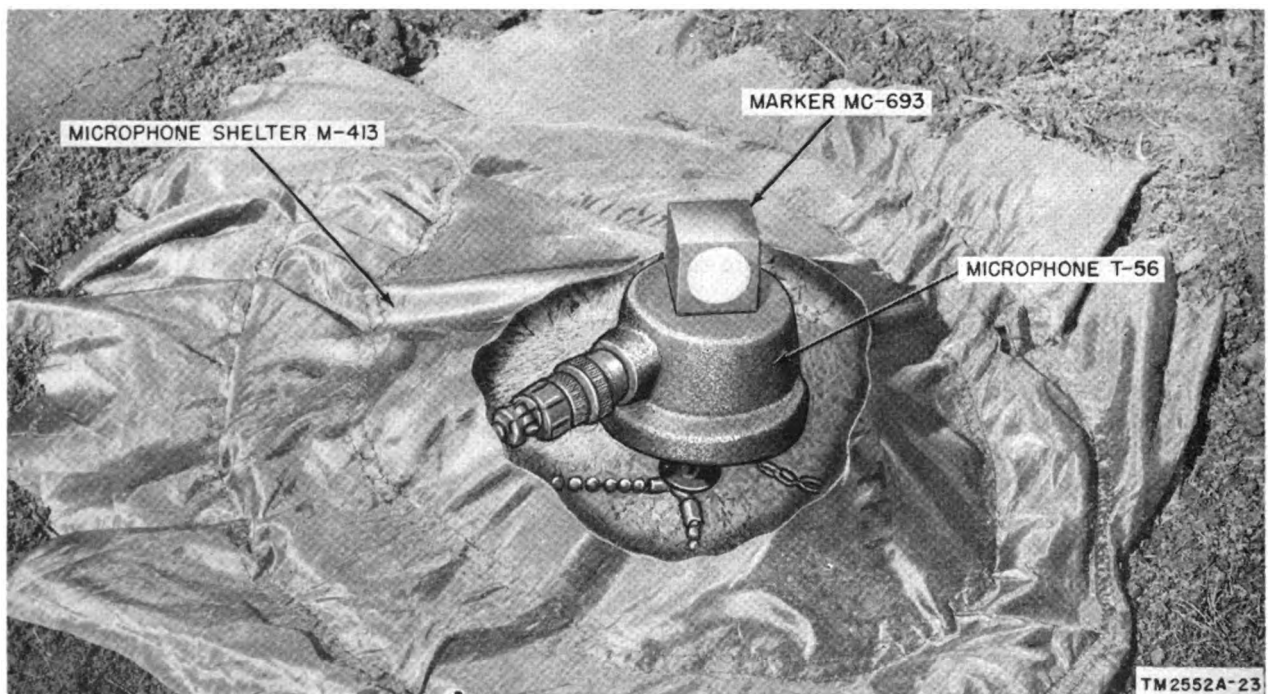

Figure 21. Microphone T-56 and Marker MC-693 placed on top of microphone.
- (5) Add the required lengths of Cord CD-1239 between the array and the recorder site.
*m.* Place Microphone Shelter M-413 and Marker MC-693 over each of the microphones as shown in figure 21. The shelter is not necessary if the weather is calm.